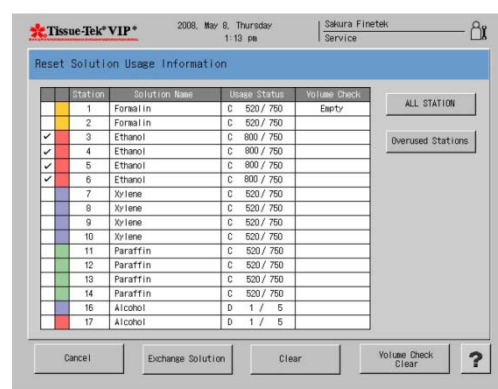

Figure 3-DDDD
- The Reset Solution Usage Information screen displays (Figure 3-DDDD).